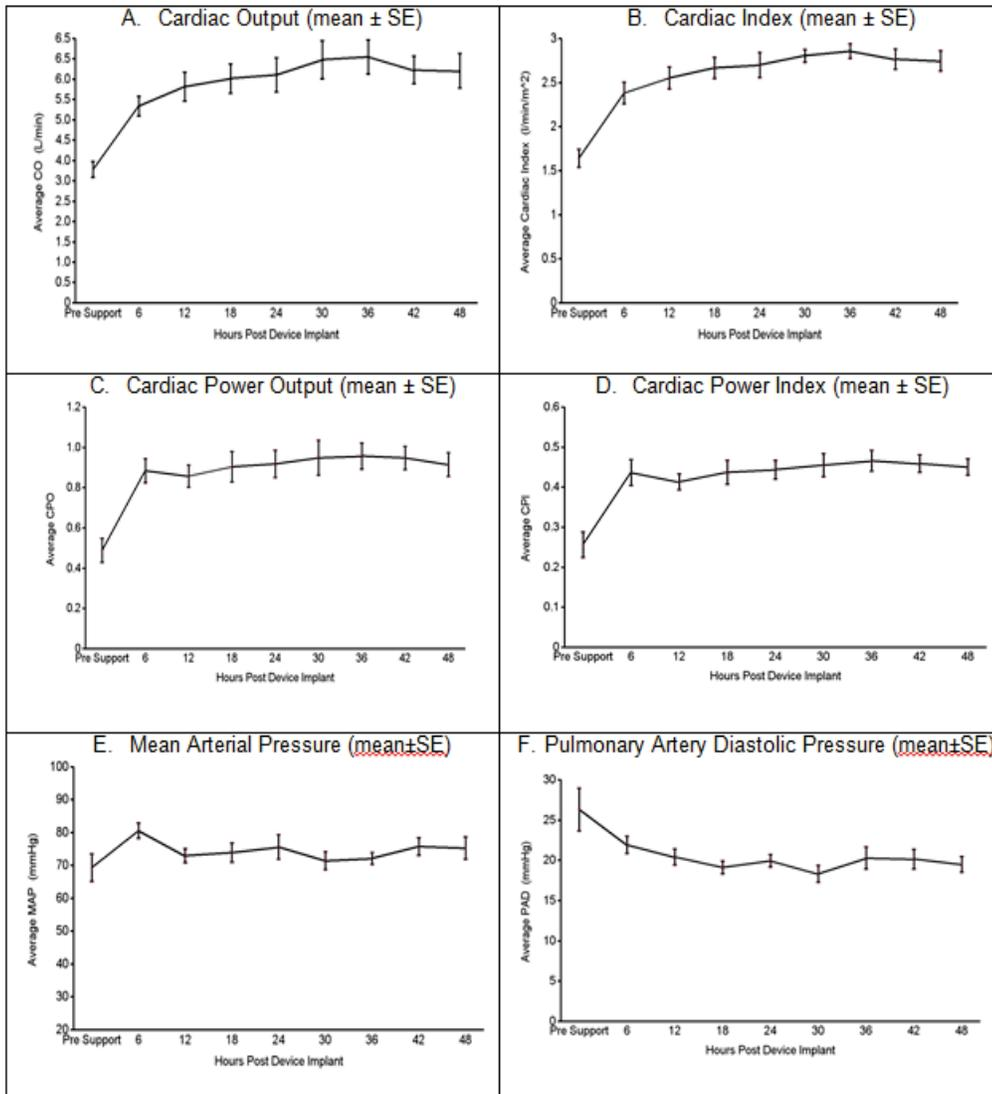
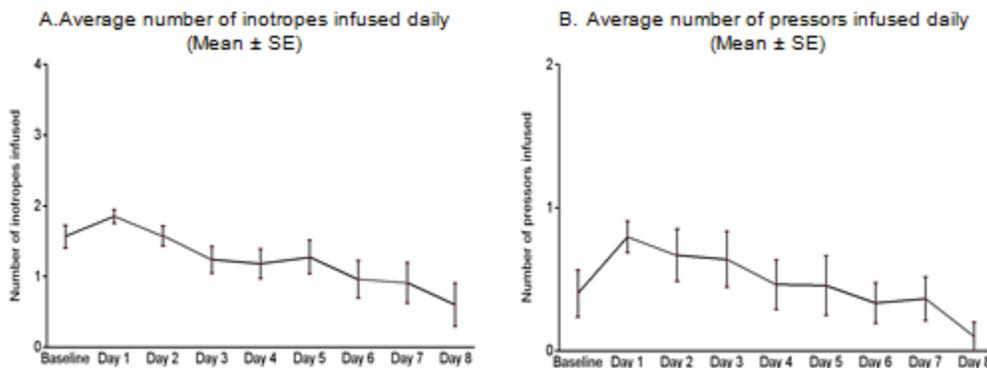

Figure 6.13 Improvement in patient hemodynamics (from baseline to 48hrs post device implant) for RECOVER I patients
Figure 6.14 Decrease in inotropes and pressors (post-device placement) for RECOVER I patients
As initial clinical evidence of the hemodynamic benefits of Impella support, results from a clinical trial with the Impella 5.0 and Impella LD are provided. The study, RECOVER I, was an FDA-approved prospective, single-arm study that evaluated the safety, hemodynamic benefit and feasibility for the Impella 5.0 and the Impella LD in a post-cardiotomy settings. As part of the study, hemodynamic data was collected at baseline and over time to evaluate the robustness of the hemodynamic support with the Impella 5.0 and Impella LD devices in patients experiencing hemodynamic compromise/cardiogenic shock post cardiac surgery. Cardiac output (CO), cardiac index (CI), mean arterial pressure (MAP), cardiac power output (CPO), cardiac power index (CPI) and pulmonary artery diastolic blood pressure (PAd) measurements were collected. The data collected showed an immediate improvement of the hemodynamics of PCCS patients post device implant, as shown in Figure 6.13. In addition, concomitantly, as patients' hemodynamics improved, a rapid and sustained weaning of inotropic and pressor support was also observed, as given Figure 6.14.